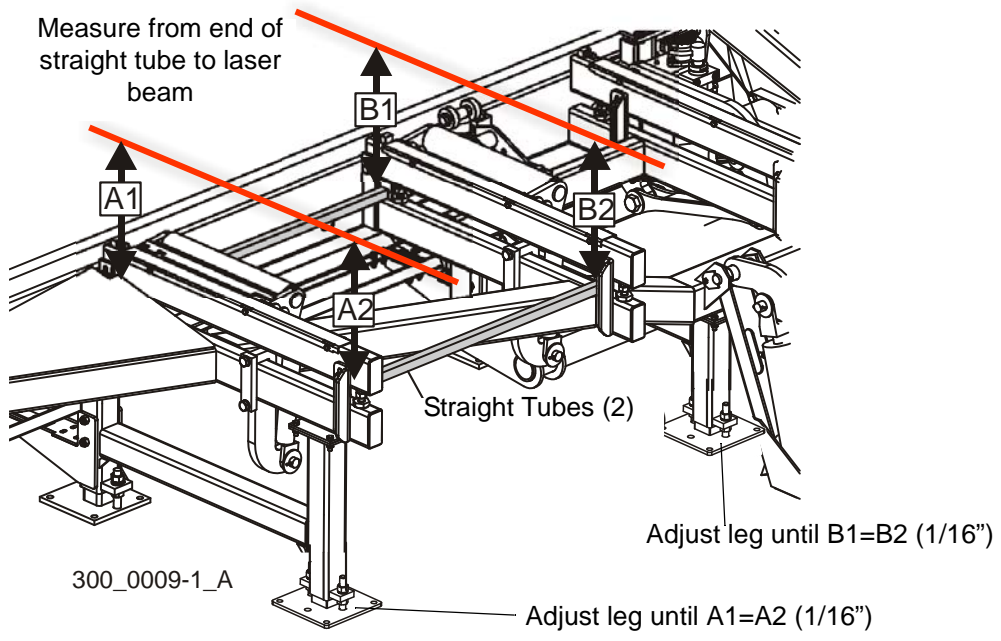

**FIG. 3-31**
**See Figure 3-31.** To level the main bed tube, measure the distance from the top track rail to the laser beam at one of the leg locations. Move the saw head if necessary to remove weight from the leg. Use the lower adjustment nut to raise or lower the appropriate leg until the target dimension is obtained ( $\pm 1/16''$ ). Lock the leg in position by tightening the top nut and the horizontal locking bolt. Repeat at each leg location along the length of the main bed tube.